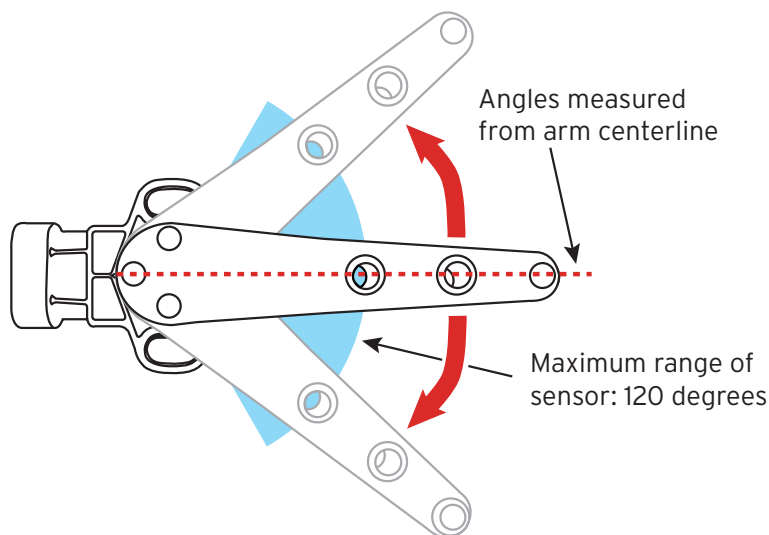

Fig. 18
1. Use the paper height sensor tool on page 13 in combination with the sensor tool in the display/app (see the user guide AD-1000 for more info) to make sure the range is sufficient to provide accurate measurements (Fig. 18). The minimum recommended sensor angle range is over 60 degrees of total travel and the maximum allowed total travel is 120 degrees.